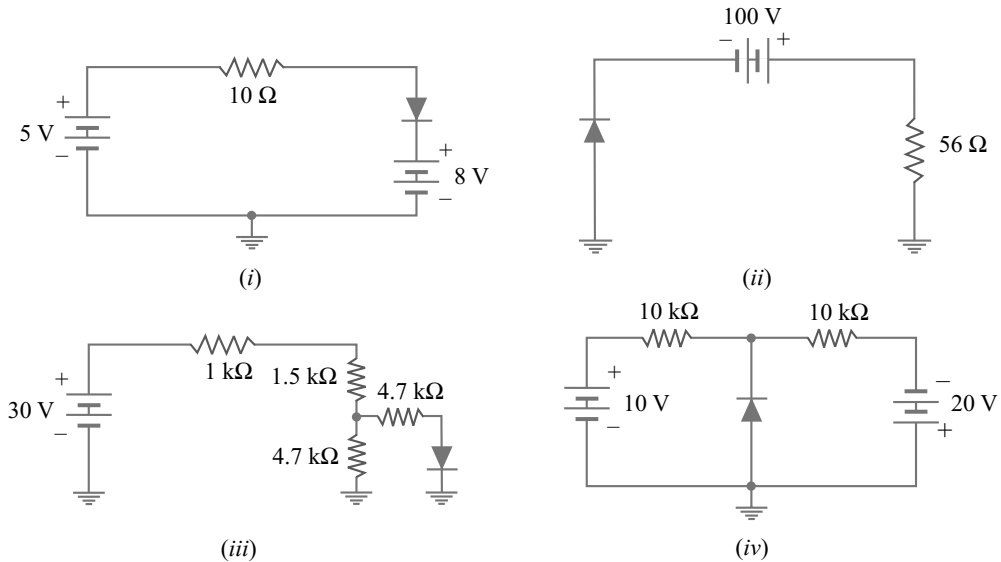

Fig. 4.81
1. Determine the voltage across each diode in Fig. 4.81, assuming that they are germanium diodes with a reverse resistance of  $50\text{ M}\Omega$ . [(i)  $-3\text{ V}$  (ii)  $0.3\text{ V}$  (iii)  $0.3\text{ V}$  (iv)  $0.3\text{ V}$ ]